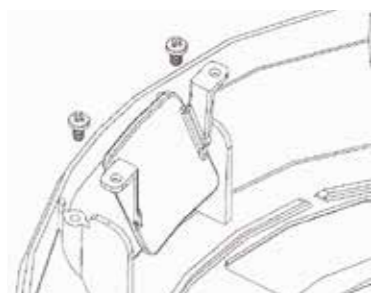

fig 2
4. If using side entry, remove the blank cover from the desired side of the cast base as shown (fig 2)